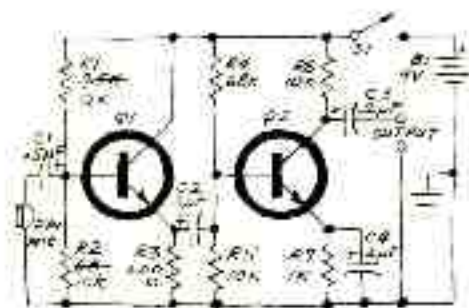

Fig. 8. This is the final circuit layout.
Insert all of the above figures into the circuit as shown in Fig. 8.
- 7. Breadboard the circuit. When adjusting resistor values, keep the same ratio between the values and increase or decrease until you come close to something you have. For instance, assume you do not have a 7500 Ω or 8000 ohm resistor for R_1 or R_2 . You know the values can go up, so find the ratio of R_1/R_2 —which is 1.25. An increase in both values will exactly raise the input impedance, which is not objectionable. Thus, as shown in Fig. 8, R_1 and R_2 were changed to 12k and 10k, respectively, since they were readily available.